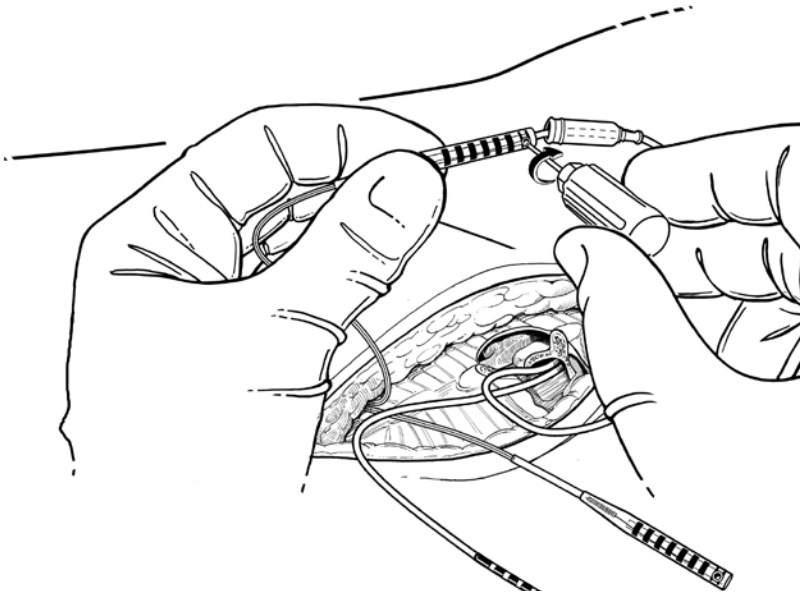

FIGURE 57
- 6 Use the torque wrench supplied in the extension package to tighten the setscrews, completing the electrical circuit (FIGURE 57).